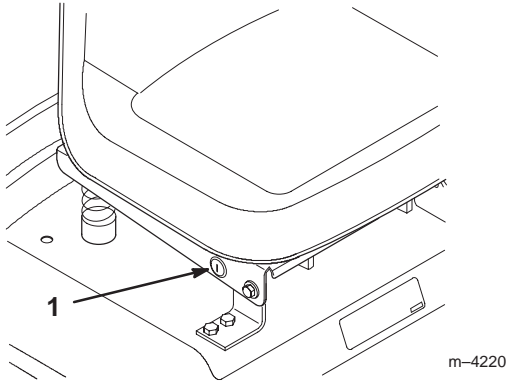

Figure 6
If you need to use the PTO while backing up, you can turn off this interlock feature using the KeyChoice switch located near the seat bracket (Fig. 6).
2. Insert the KeyChoice key into the switch (Fig. 6).